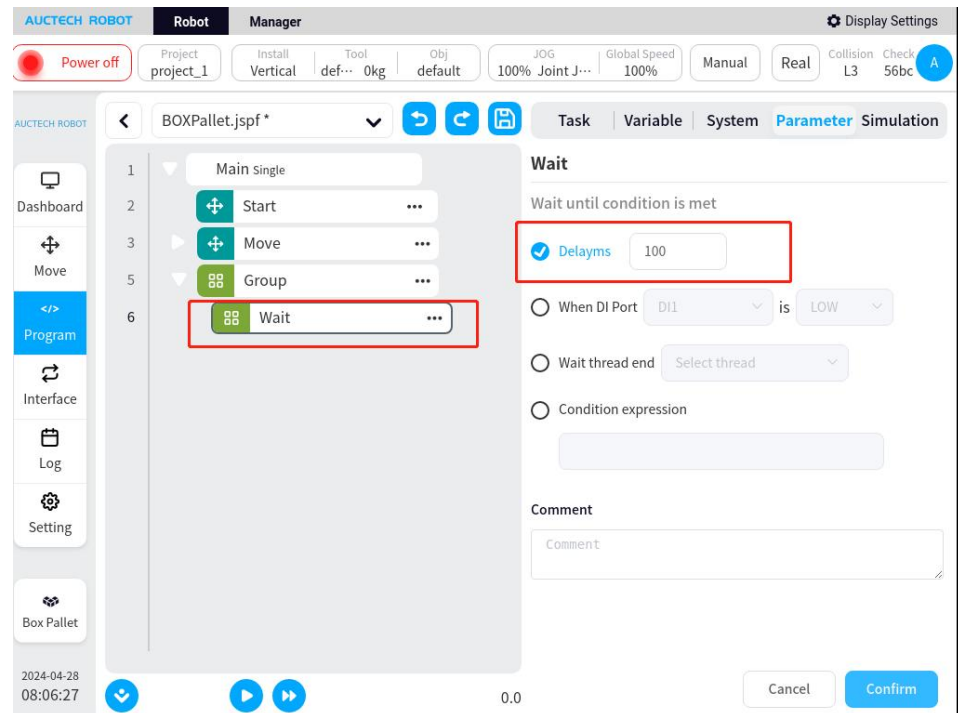

Figure 40
3、 Set up the “Group custom crawl” module, as shown in Figure 40.